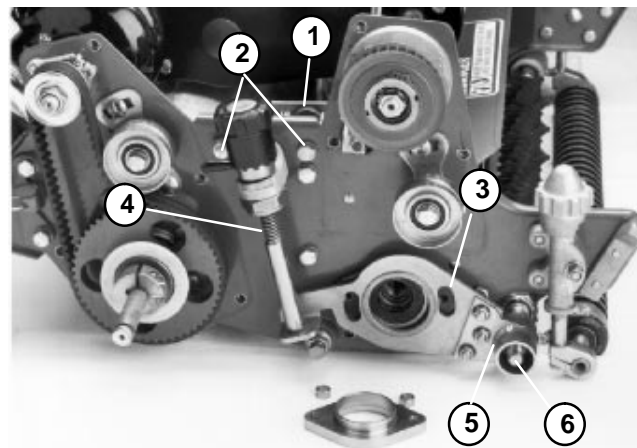

Figure 23
C. Remove adapter (6), bearing (7) if necessary, spacers (5), and adapter ring (9) from the side plate (8).
7. On both sides of the mower (Fig. 23),
13. Pull side plate with the groomer adjuster and bearing housing from the grooming reel shaft and reel bearing housing (Fig. 23).